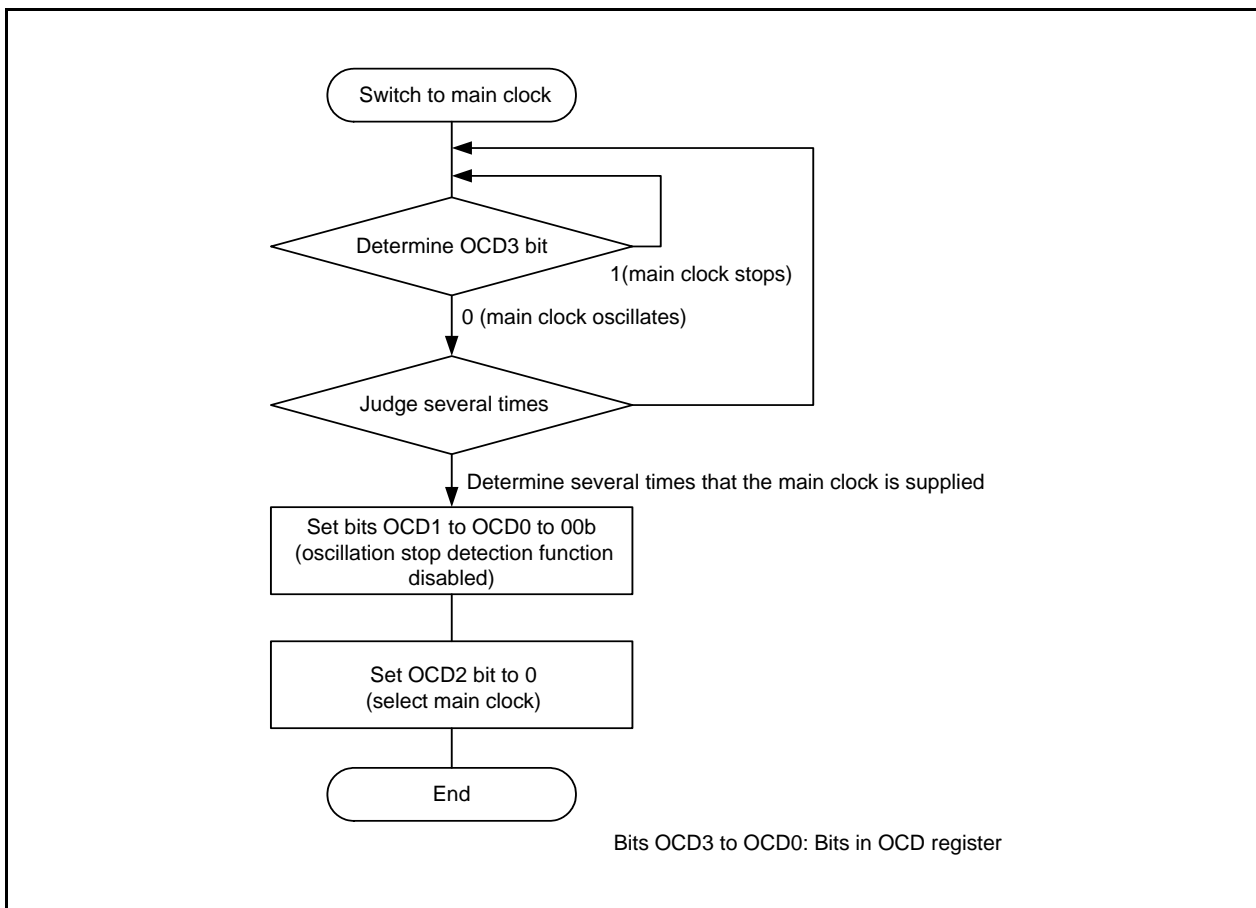

Figure 10.11 Procedure for Switching Clock Source from Low-Speed On-Chip Oscillator to Main Clock
- Figure 10.11 shows the Procedure for Switching Clock Source from Low-Speed On-Chip Oscillator to Main Clock.